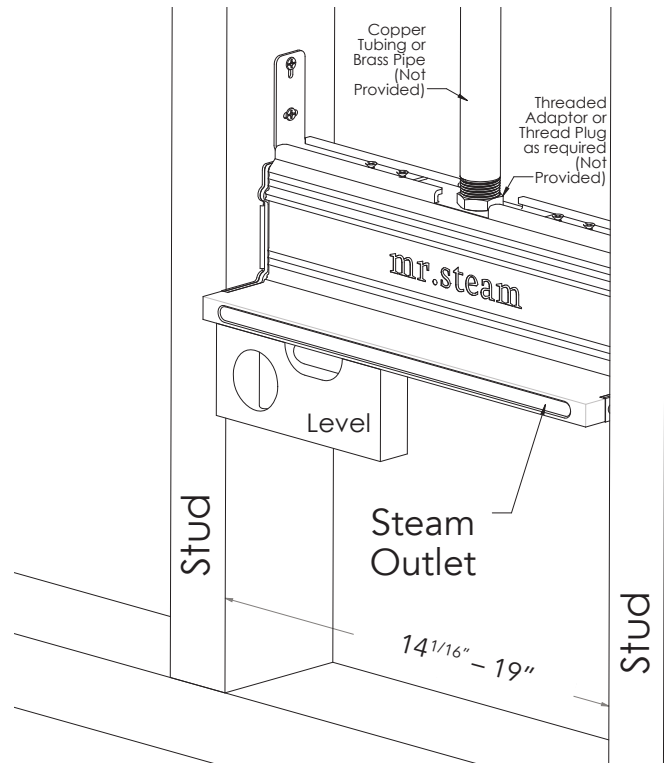

Figure 3
STEP 4. Use a level to ensure the steam head is level (see Fig. 3) and the steam head face is flush or recessed 1/8" from the finished wall surface. Install the four screws in the vertical slotted mounting holes to secure the steam head to the studs.